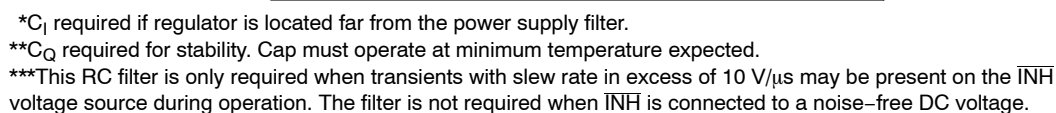
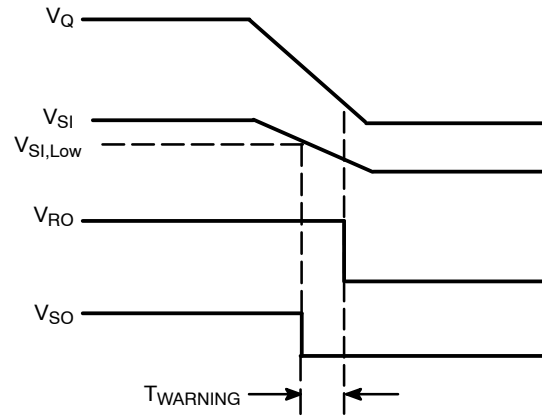

Figure 34. Test and Application Circuit Showing all Compensation and Sense Elements
Figure 37. SO Warning Timing Waveform
The value for the output capacitor C_O shown in Figure 34 should work for most applications, however, it is not necessarily the optimized solution. Stability is guaranteed at values $C_O \geq 22 \mu\text{F}$ and an $\text{ESR} \leq 4 \Omega$ within the operating temperature range. Actual limits are shown in a graph in the typical performance characteristics section.
The reset threshold V_{RT} can be decreased from a typical value of 4.67 V to as low as 3.5 V by using an external voltage divider connected from the Q lead to the pin RADJ, as shown in Figure 34. The resistor divider keeps the voltage above the $V_{RADJ,TH}$ (typ. 1.36 V), for the desired input voltages and overrides the internal threshold detector. Adjust the voltage divider according to the following relationship:
An on-chip comparator is available to provide early warning to the microprocessor of a possible reset signal. The reset signal typically turns the microprocessor off instantaneously. This can cause unpredictable results with the microprocessor. The signal received from the SO pin will allow the microprocessor time to complete its present task before shutting down. This function is performed by a comparator referenced to the band gap voltage. The actual trip point can be programmed externally using a resistor divider to the input monitor (SI) (Figure 34). The typical threshold is 1.36 V on the SI Pin.
Figure 37 shows the SO Monitor waveforms as a result of the circuits depicted in Figure 34. As the output voltage V_Q falls, the monitor threshold $V_{SI,Low}$ is crossed. This causes the voltage on the SO output to go low sending a warning signal to the microprocessor that a reset signal may occur in a short period of time. $T_{WARNING}$ is the time the microprocessor has to complete the function it is currently working on and get ready for the reset shutdown signal. When the voltage on the SO goes low and the RO stays high the current consumption is typically $400 \text{ } \mu\text{A}$.